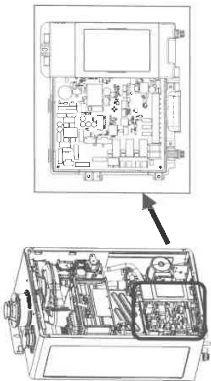

Figure 16: PC Board
3. Locate the PC Board in the bottom, left corner of the boiler (Figure 16).